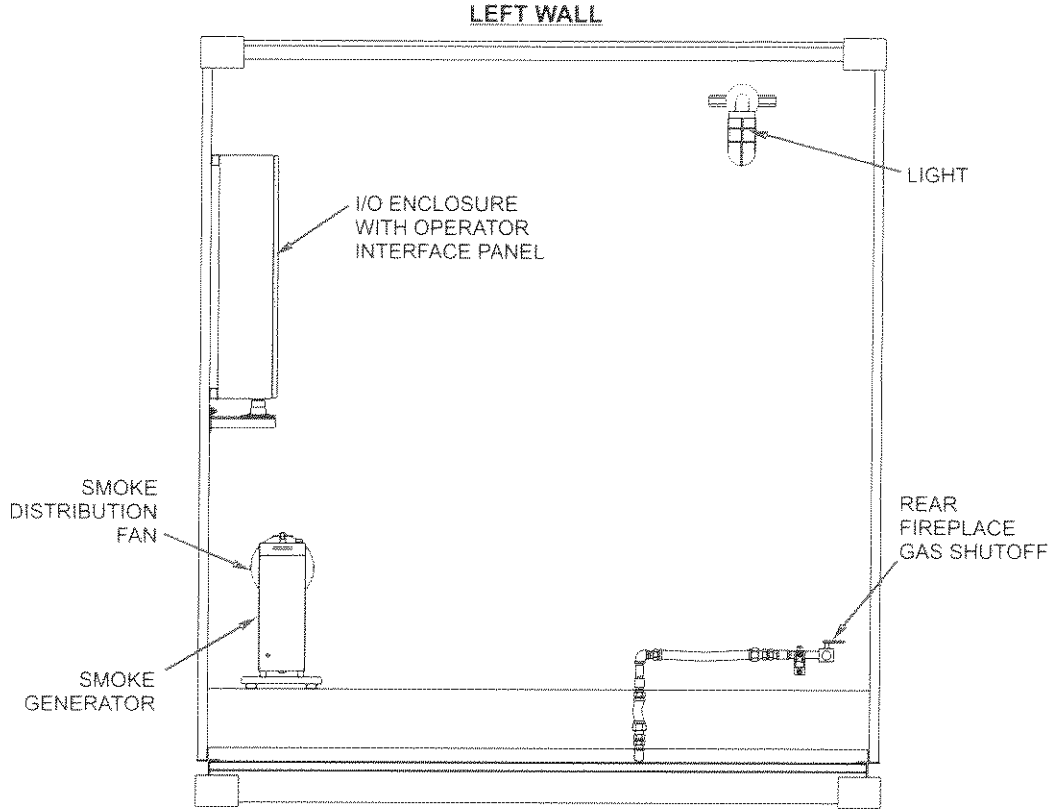

Figure 3-10 Propane Gas Shutoff Valves (Control Room Left Wall)
7. Open gas shutoff valve to Rear fireplace Burner Control Assembly (Figure 3-10).